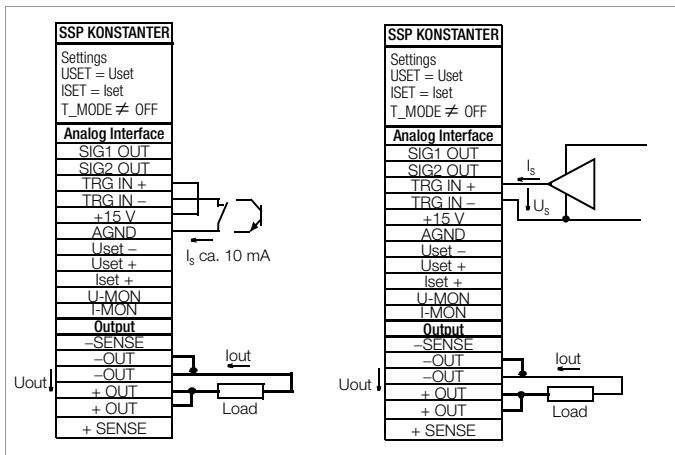

Figure 5.8 Controlling the Trigger Input with a Switching Element / External Signal
- The **TRIGGER** input can be driven with the **+15 V output** at the analog interface via any desired switch (Figure 5.8).